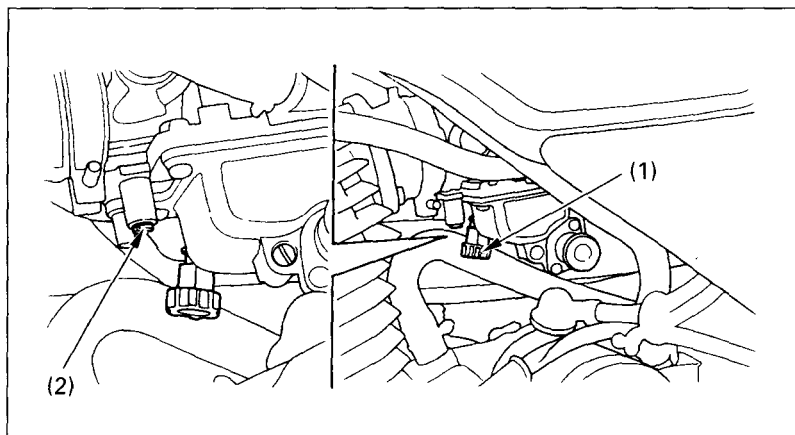

Fig. 4-9
2. Adjust idle speed and turning the throttle stop screw (Fig. 4-9).